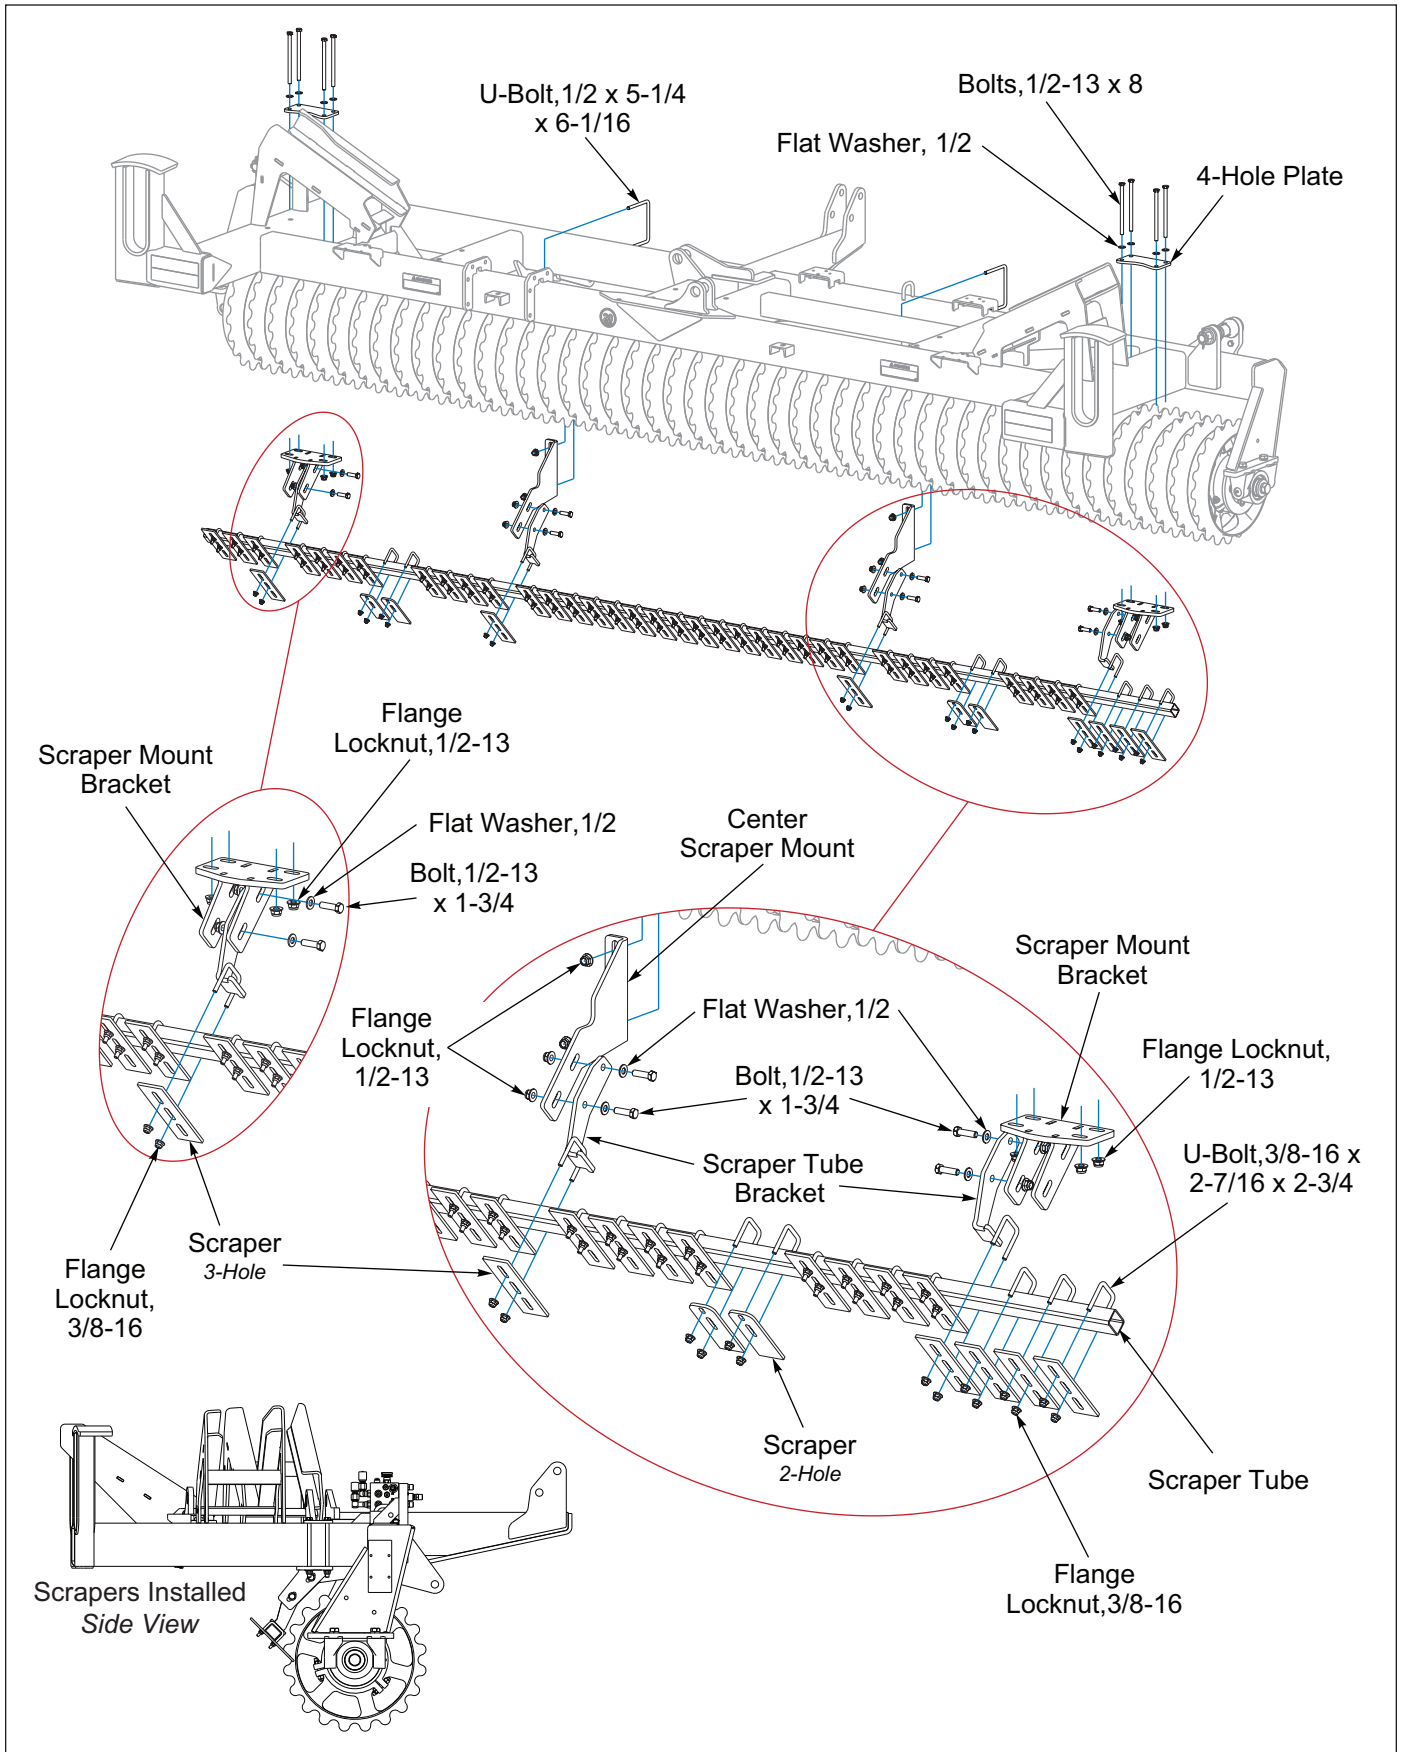

Figure 2-26: Center Notch Wheel Scrapers - Optional
1. Place the Center Roller on level ground. Install the Center Scraper Mounts to the Center Frame Front Tube with 1/2-13 U-Bolts and Flange Locknuts. Attach a Scraper Mount Bracket to the bottom of each Center Frame End Cross Tube by placing a 4-Hole Plate on top and attaching it with 1/2-13 x 8 Bolts, Flat Washers, and Flange Locknuts. Do not tighten. **See Figure 2-26.**